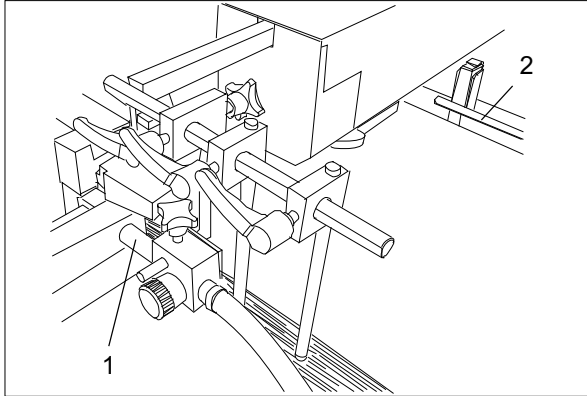

Fig. 35 Side blowers
The side blowers (Fig. 35/1) stabilize the air cushion in the area of the leading edge of the sheet – this is especially useful for long sheets.
To achieve the best possible result, a flow inhibitor (Fig. 35/2) must be attached to the right stop rods.
1. Place the side blower next to the front stops with a gap of 1 to 2 cm so that the air stream hits the opposite flow inhibitor (Fig. 35/2).